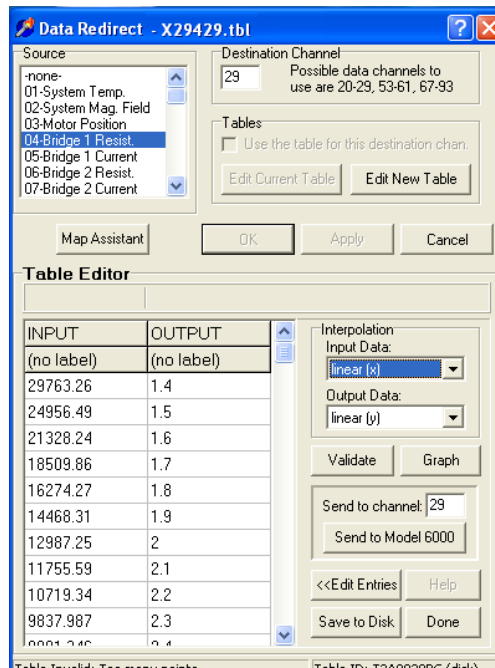

Figure 4. Data Redirect dialog and Table Editor
**Tables:** When you click on the **Edit New Table** button, the program will prompt you to open a table from the host computer. After you select and open the table, the **Table Editor** section will appear, showing the calibration data (see Figure 4). The **Edit Current Table** button is for use when you have loaded and saved a table for a channel and want to use that table again.
- To be compatible with the **Tables** utility, the data in the table file must be listed in two columns, with the converted values on the left and the raw (original) data on the right, as shown in Figure 6. When the table is read into the **Tables** utility, it reorders the columns so that the raw data values are the INPUT and the converted values are the OUTPUT (see Figure 4). Note that you can leave column titles in the table file, and there can be more than two columns—the program will read only the two columns at the left of the file.